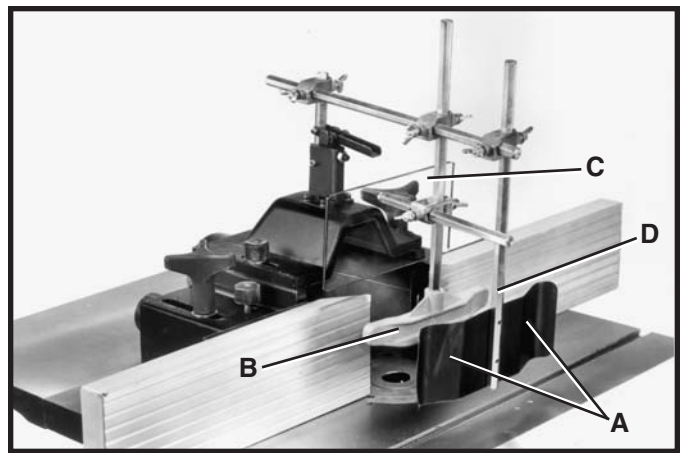

Fig. 52
The spring clamp (A) Fig. 52, holddown (B), and clear plastic guard (C) are fully adjustable to provide safe protection for most applications. **NOTE: For certain applications, the supplied spindle guard may have to be used or a custom guard may need to be fabricated.**
1. Using a square (not shown), check to see if shaft (D) Fig. 52, on spring clamp (A) is 90 degrees to the table surface. If an adjustment is necessary, proceed as follows: